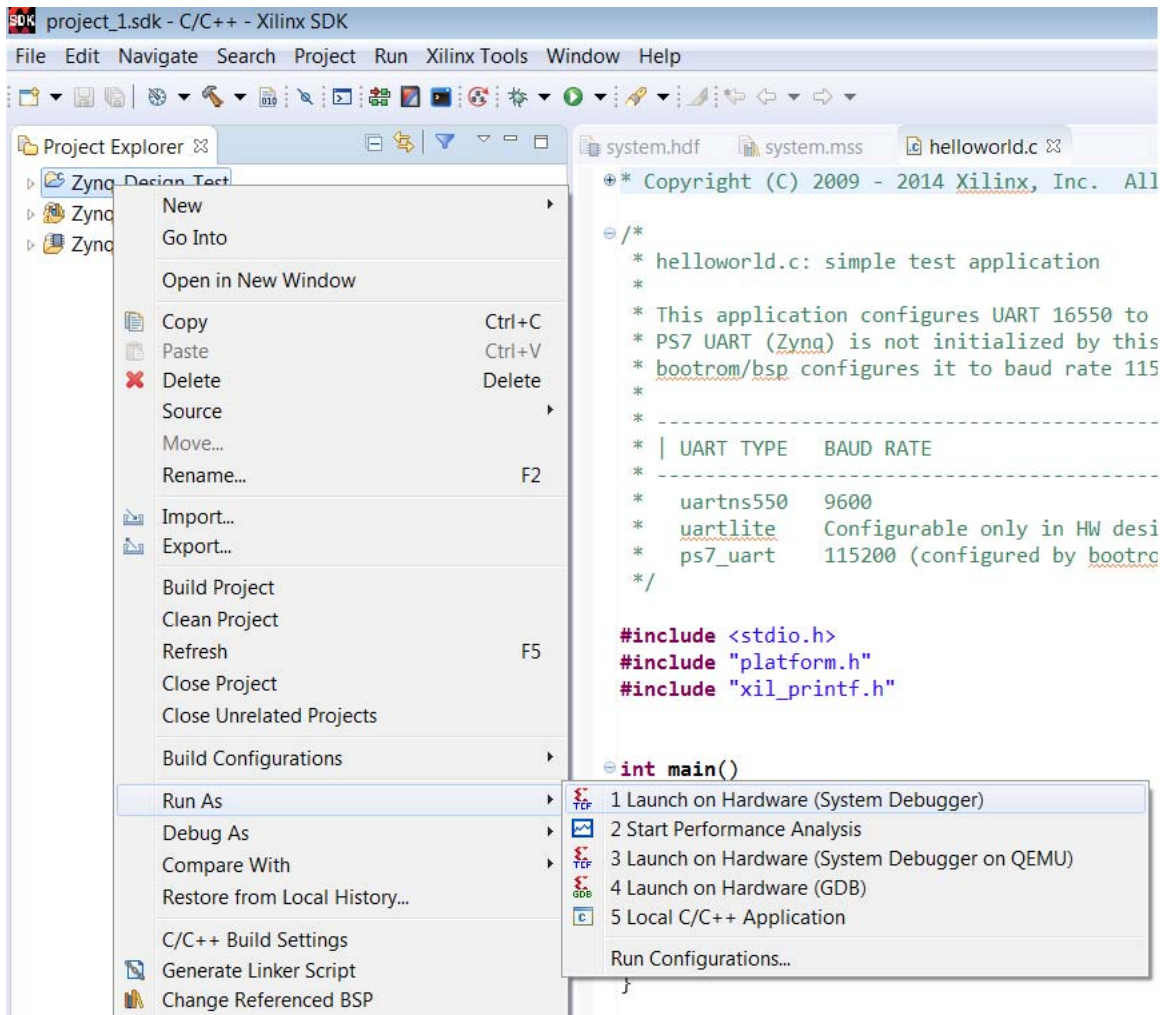

Figure 10-24: Run the Application Project
- 9. Right-click the application project **Zynq\_Design\_Test** in the Explorer pane (Figure 10-24).